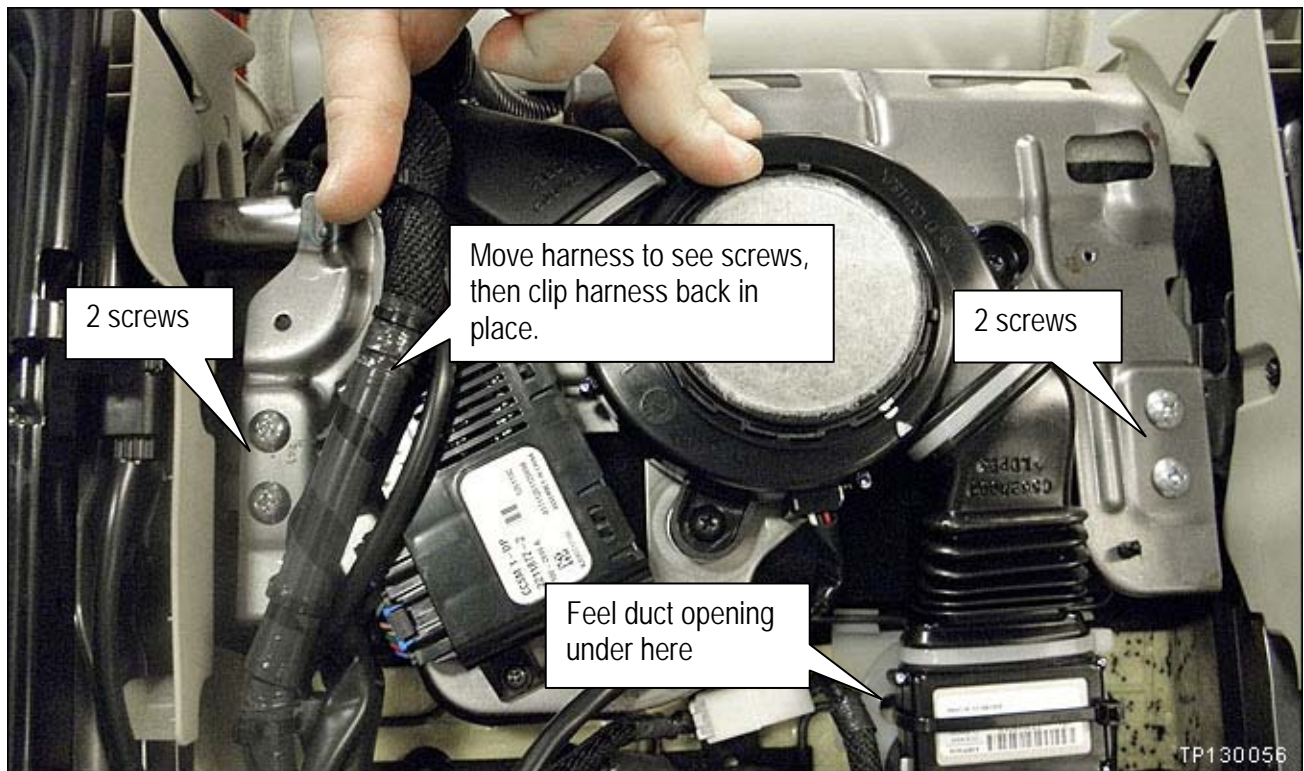

Figure 31
41. If equipped with climate control seat; reinstall the 4 screws (blower motor bracket screws) shown in Figure 31.
42. If equipped with climate control seat; feel under the duct (see Figure 31); make sure the outlet is positioned in the set cushion opening and not folded.